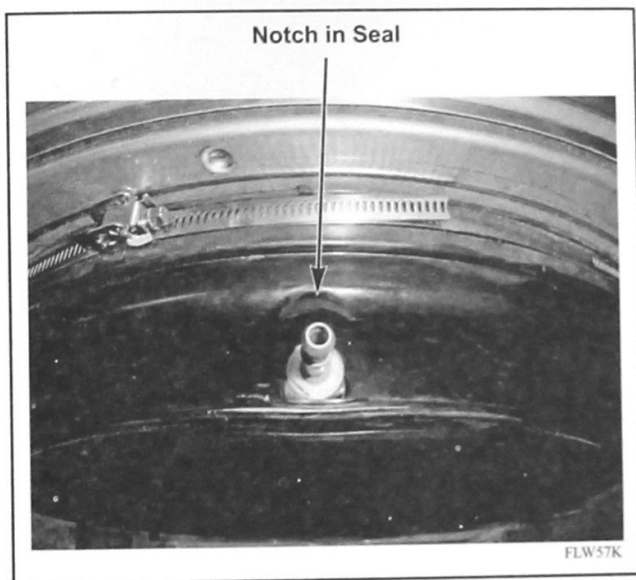

Figure 7
- c. Apply remaining lubricant to notch in seal behind nozzle. Refer to *Figure 7*.